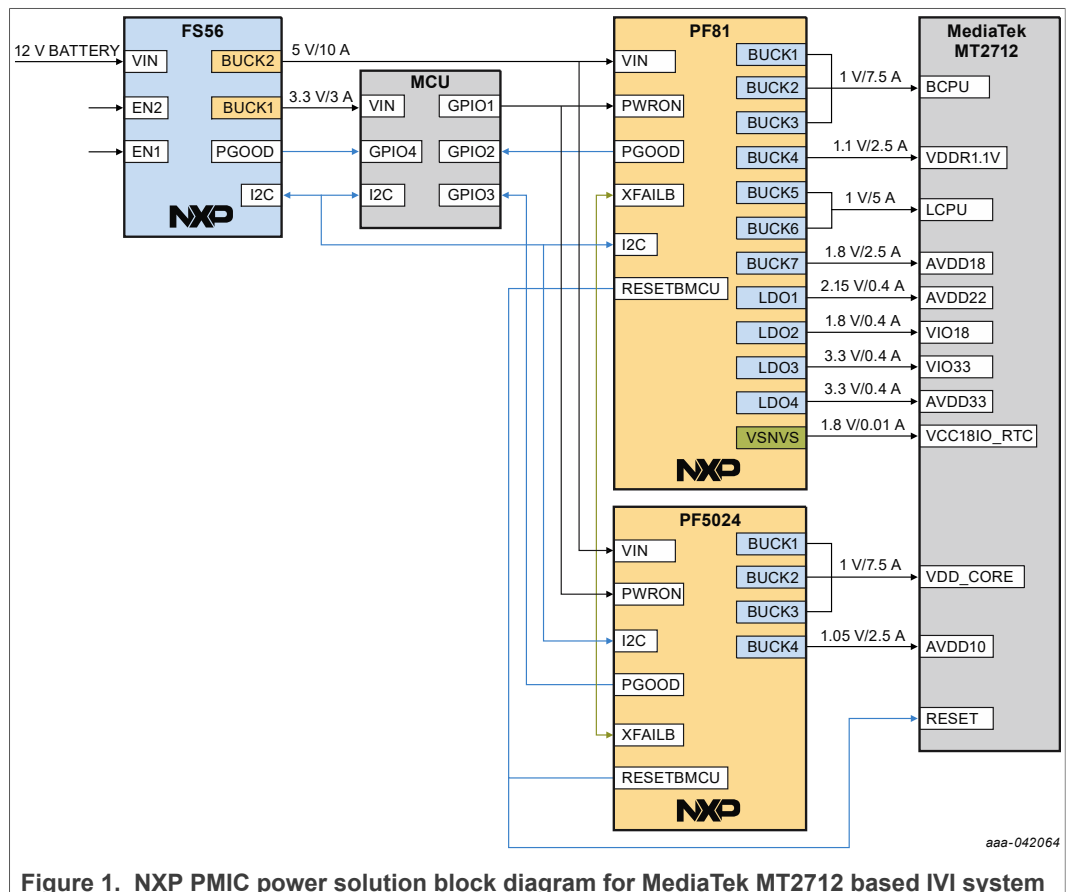

Figure 1. NXP PMIC power solution block diagram for MediaTek MT2712 based IVI system
Figure 1 shows the NXP PMIC power solution for MT2712-based IVI system. The block diagram is based on a Quality Management (QM) PMIC for systems with QM requirements. Normally, a single MCU is linked with the MT2712 for IVI applications. One function of the MCU is to control the MT2712's domain power on/off function.